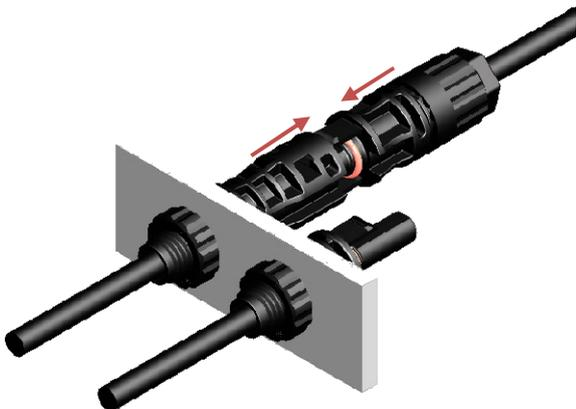
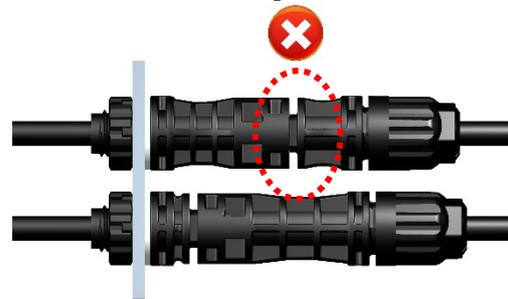

Figure 20
Figure 22
- ◇ 公母连接器插合：将公/母电缆连接器插入母/公面板连接器，直至其啮合。轻轻拉动，以检查是否啮合牢固（如图 20&21）。同时检查公母连接器有无对配不到位现象（如图 22）。
Insert the Male/ female cable connector into the female/ male panel connector until they engaged. And pull lightly to check correct engagement (Fig. 20&21). At the same time, check whether the male and female connectors are in place or not (Figure 22).